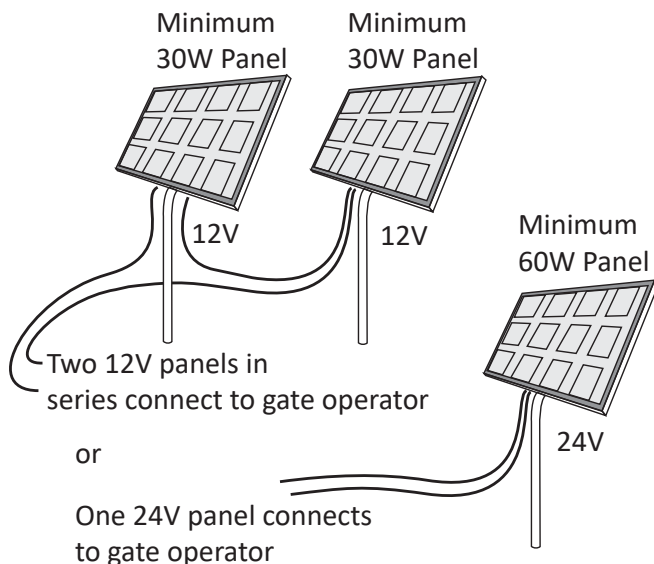

Figure 31. Minimum Solar Panel Configuration
1. Install one 24VDC solar panel or two 12VDC solar panels in series with a total capacity of at least 60W (Figure 31). Mount them according to the manufacturer's installation instructions within 100 ft of the operator. Check NEC and local regulations for other distances that may apply.